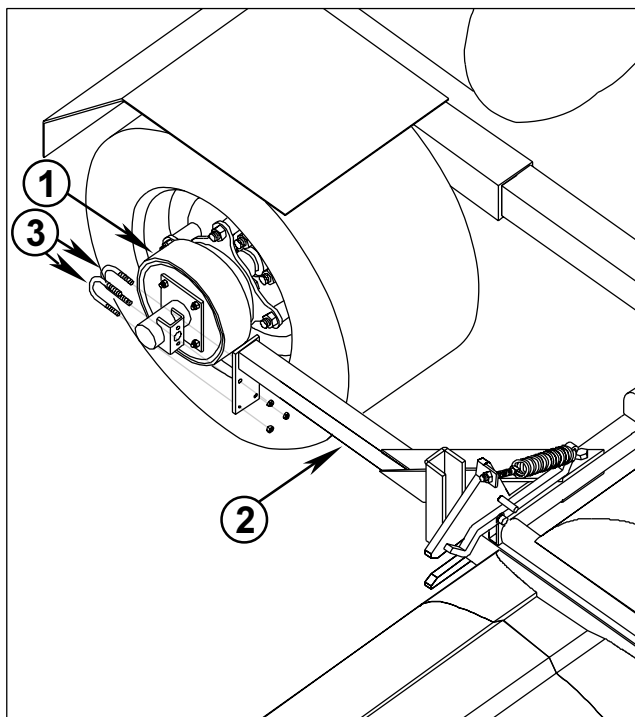

FIG. 7b
3. Assemble Boom Mounts onto Brake Hub mounting shafts as per FIG. 7b using (2) U-clamps per Hub and ensuring that Boom is centered on the Vehicle. Tighten nuts on U-clamp and then tighten nuts on the (4) 1/2" x 2-1/2" and (2) 3/4" x 1-1/4" hex hd. cap screws.